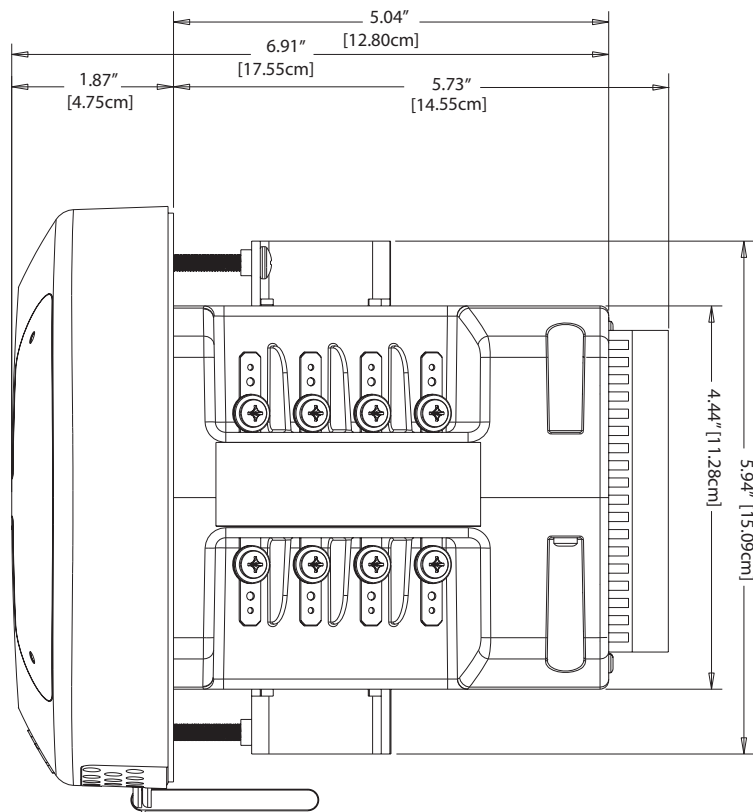

Figure 3-4: Meter Side View
4. Secure the meter to the panel with lock washer and a #8 screw in each of the 4 mounting brackets (see Figure 3.4).